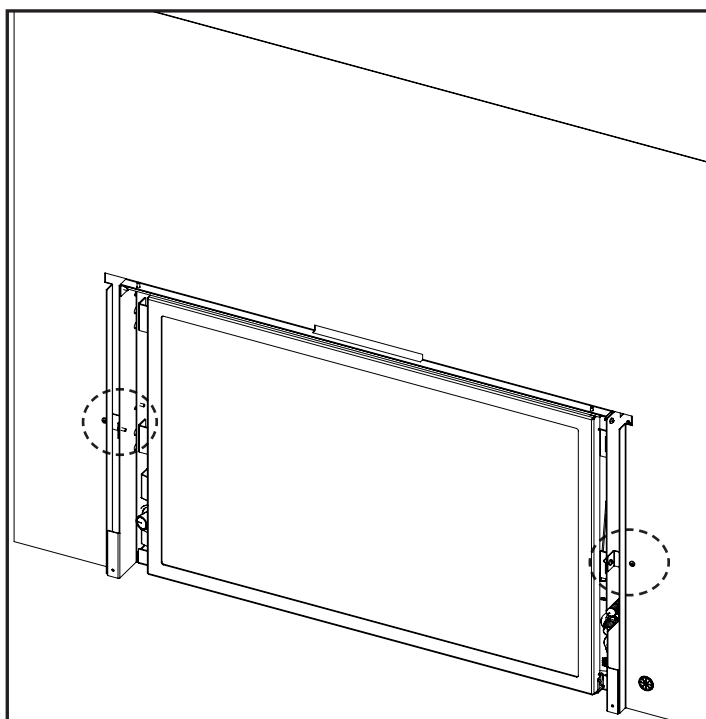

Figure 43: Trimmable Panel Installed
3. Using the remaining hardware attach the Trimmable Panel to the Panel Brackets using a T-20 Torx screwdriver (See Figure 43).